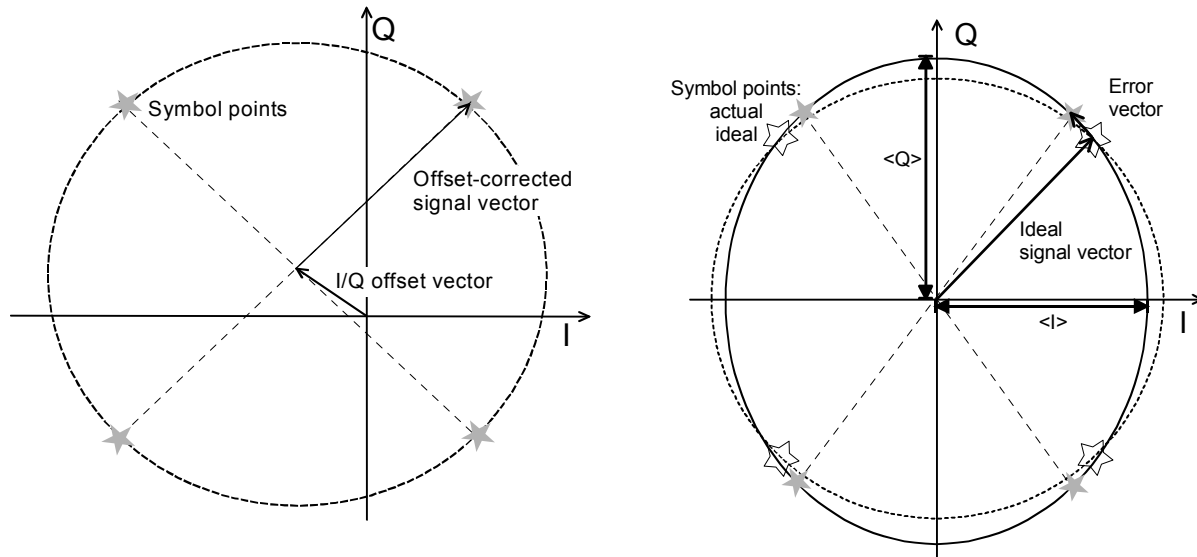

Fig. 4-4 Modulation errors in the I/Q constellation diagram
**I/Q Origin Offset** Origin offset in the I/Q constellation diagram reflecting a DC offset in the baseband signal (see Fig. 4-4 on page 4.11 and Equation 4-1). The origin offset corresponds to a RF carrier feedthrough in spectral representation.
**I/Q Imbalance** Amplitude difference between the in-phase (I) to the quadrature (Q) components of the measured signal, normalized and logarithmized (see Fig. 4-4 on page 4.11 and Equation 4-2). The I/Q imbalance corresponds to an unwanted signal in the opposite sideband in spectral representation.
Fig. 4-4 is an idealized representation of the modulation errors where the effects of a pure origin offset (left diagram) and of a pure I/Q imbalance (right diagram) are completely disentangled. The I/Q offset in dB is the logarithmic ratio of the I/Q offset vector (i.e. the estimated DC-offset of the measured signal) to the RMS value of the varied reference signal  $R'$ .